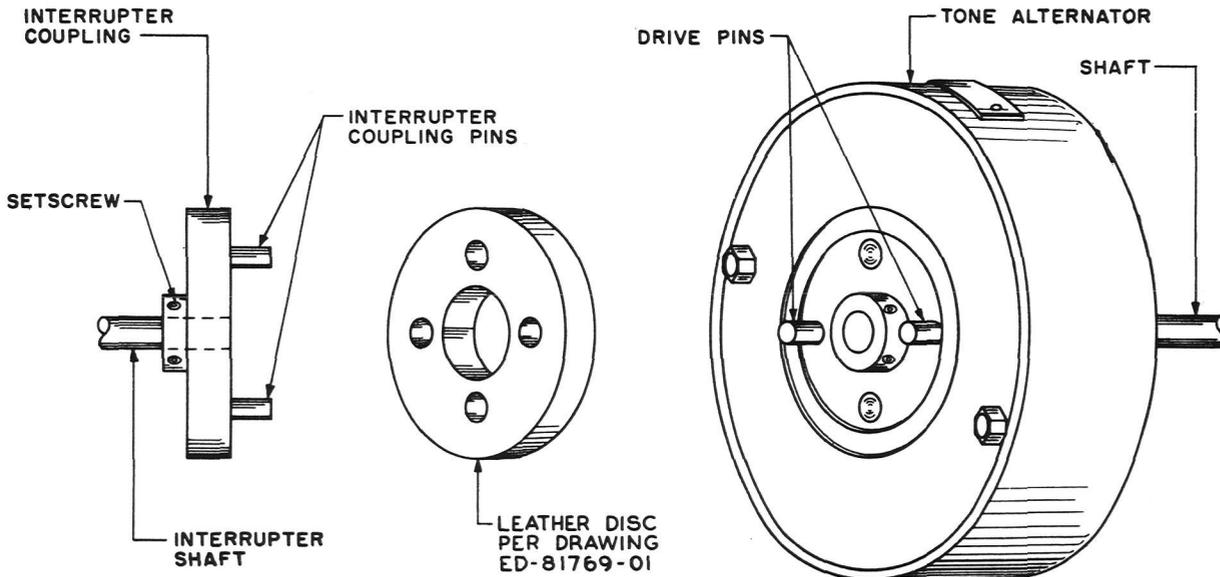

Fig. 4 - Leather Disc Coupling Arrangement
(2) If desired, a leather coupling disc per drawing ED-81769-01 may be substituted for the belt-type drive link. To make this substitution, loosen the setscrews of the interrupter coupling and slide the interrupter coupling along the shaft toward the interrupter. Then remove the belt. Install the leather disc on the tone alternator rotor, fitting two of the small holes in the disc to the drive pins on the tone alternator rotor. Slide the interrupter coupling back to its original position, inserting the interrupter coupling pins into the other pair of holes in the leather disc. Firmly tighten the setscrews of the interrupter coupling. See Fig. 4.